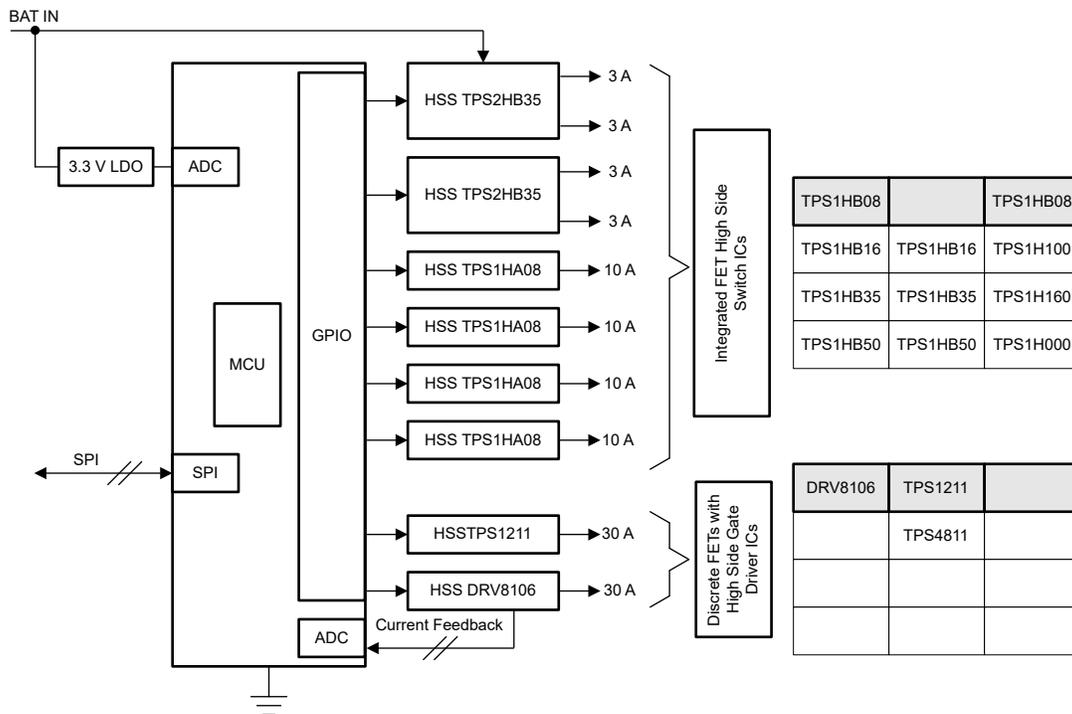
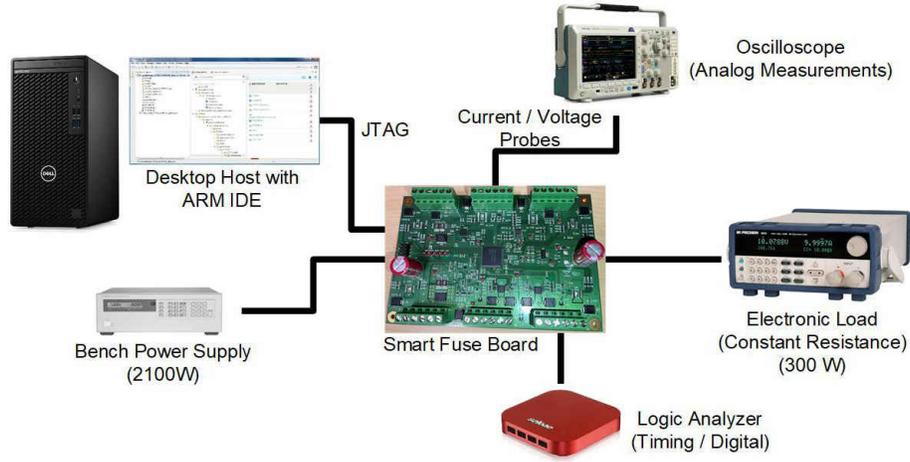

Figure 1. Texas Instruments Smart Fuse Design
Figure 4. Smart Fuse Board Testing Setup
This article discusses Texas Instruments' (TI) investigation of smart fuse designs for different current levels. Figure 1 shows the block diagram of the implemented smart fuse design. For load currents smaller than 10 A, TI's high-side switch, such as TPSXHBXX-Q1 and TPSHXXX-Q1 are used in the implementation. For load current higher than 10 A. The TPS1211x-Q1, TPS4811x-Q1, and DRV8106-Q1 devices with the addition of an external MOSFET are used to implement smart fuse designs. Of course, all of those devices integrate the current sense. So it is easy to implement *current limit base wire protection* or to use analog to digital converters (ADCs) in microcontrollers (MCUs) to measure load current and implement sophisticated *I²T wire protection* schemes.
The current limit-based wire protection is typically lower in cost and less complex, which can be effectively used to limit the current during inrush, overcurrent, and short circuit. TI's high-side switch shown in **Figure 1** has an adjustable current limit capability; current limit can be configured easily using a resistor on the ILIM pin.
If the load current behavior cannot be determined, such as the electronic control unit (ECU) is very complex and driving many different types of loads, or if the load is a bulb, then the I2T wire protection scheme can be more effective than the current limit based protection. Figure 4 shows an I2T-based implementation of the block diagram in Figure 1. In this case, the I2T protection algorithms are implemented in the MCU.
Figure 4 shows the time-current characteristics of the smart fuse design. In this figure, segment 1 of the curve is the nominal work current, such as the current under 10 A. In segment 1, the switch works without shutdown. Segment 2 of the curve shows the integral of I^2 over time. In this segment, the high switch is turned when the interval value reaches a predefined threshold. Segment 3 of the curve is optional and is implemented for current measurement range-resolution tradeoff. And finally, segment 4 of the curve is the region when the high-side switch is immediately turned off. This overcurrent feature is easily implemented in TI high-side switch and controller designs.